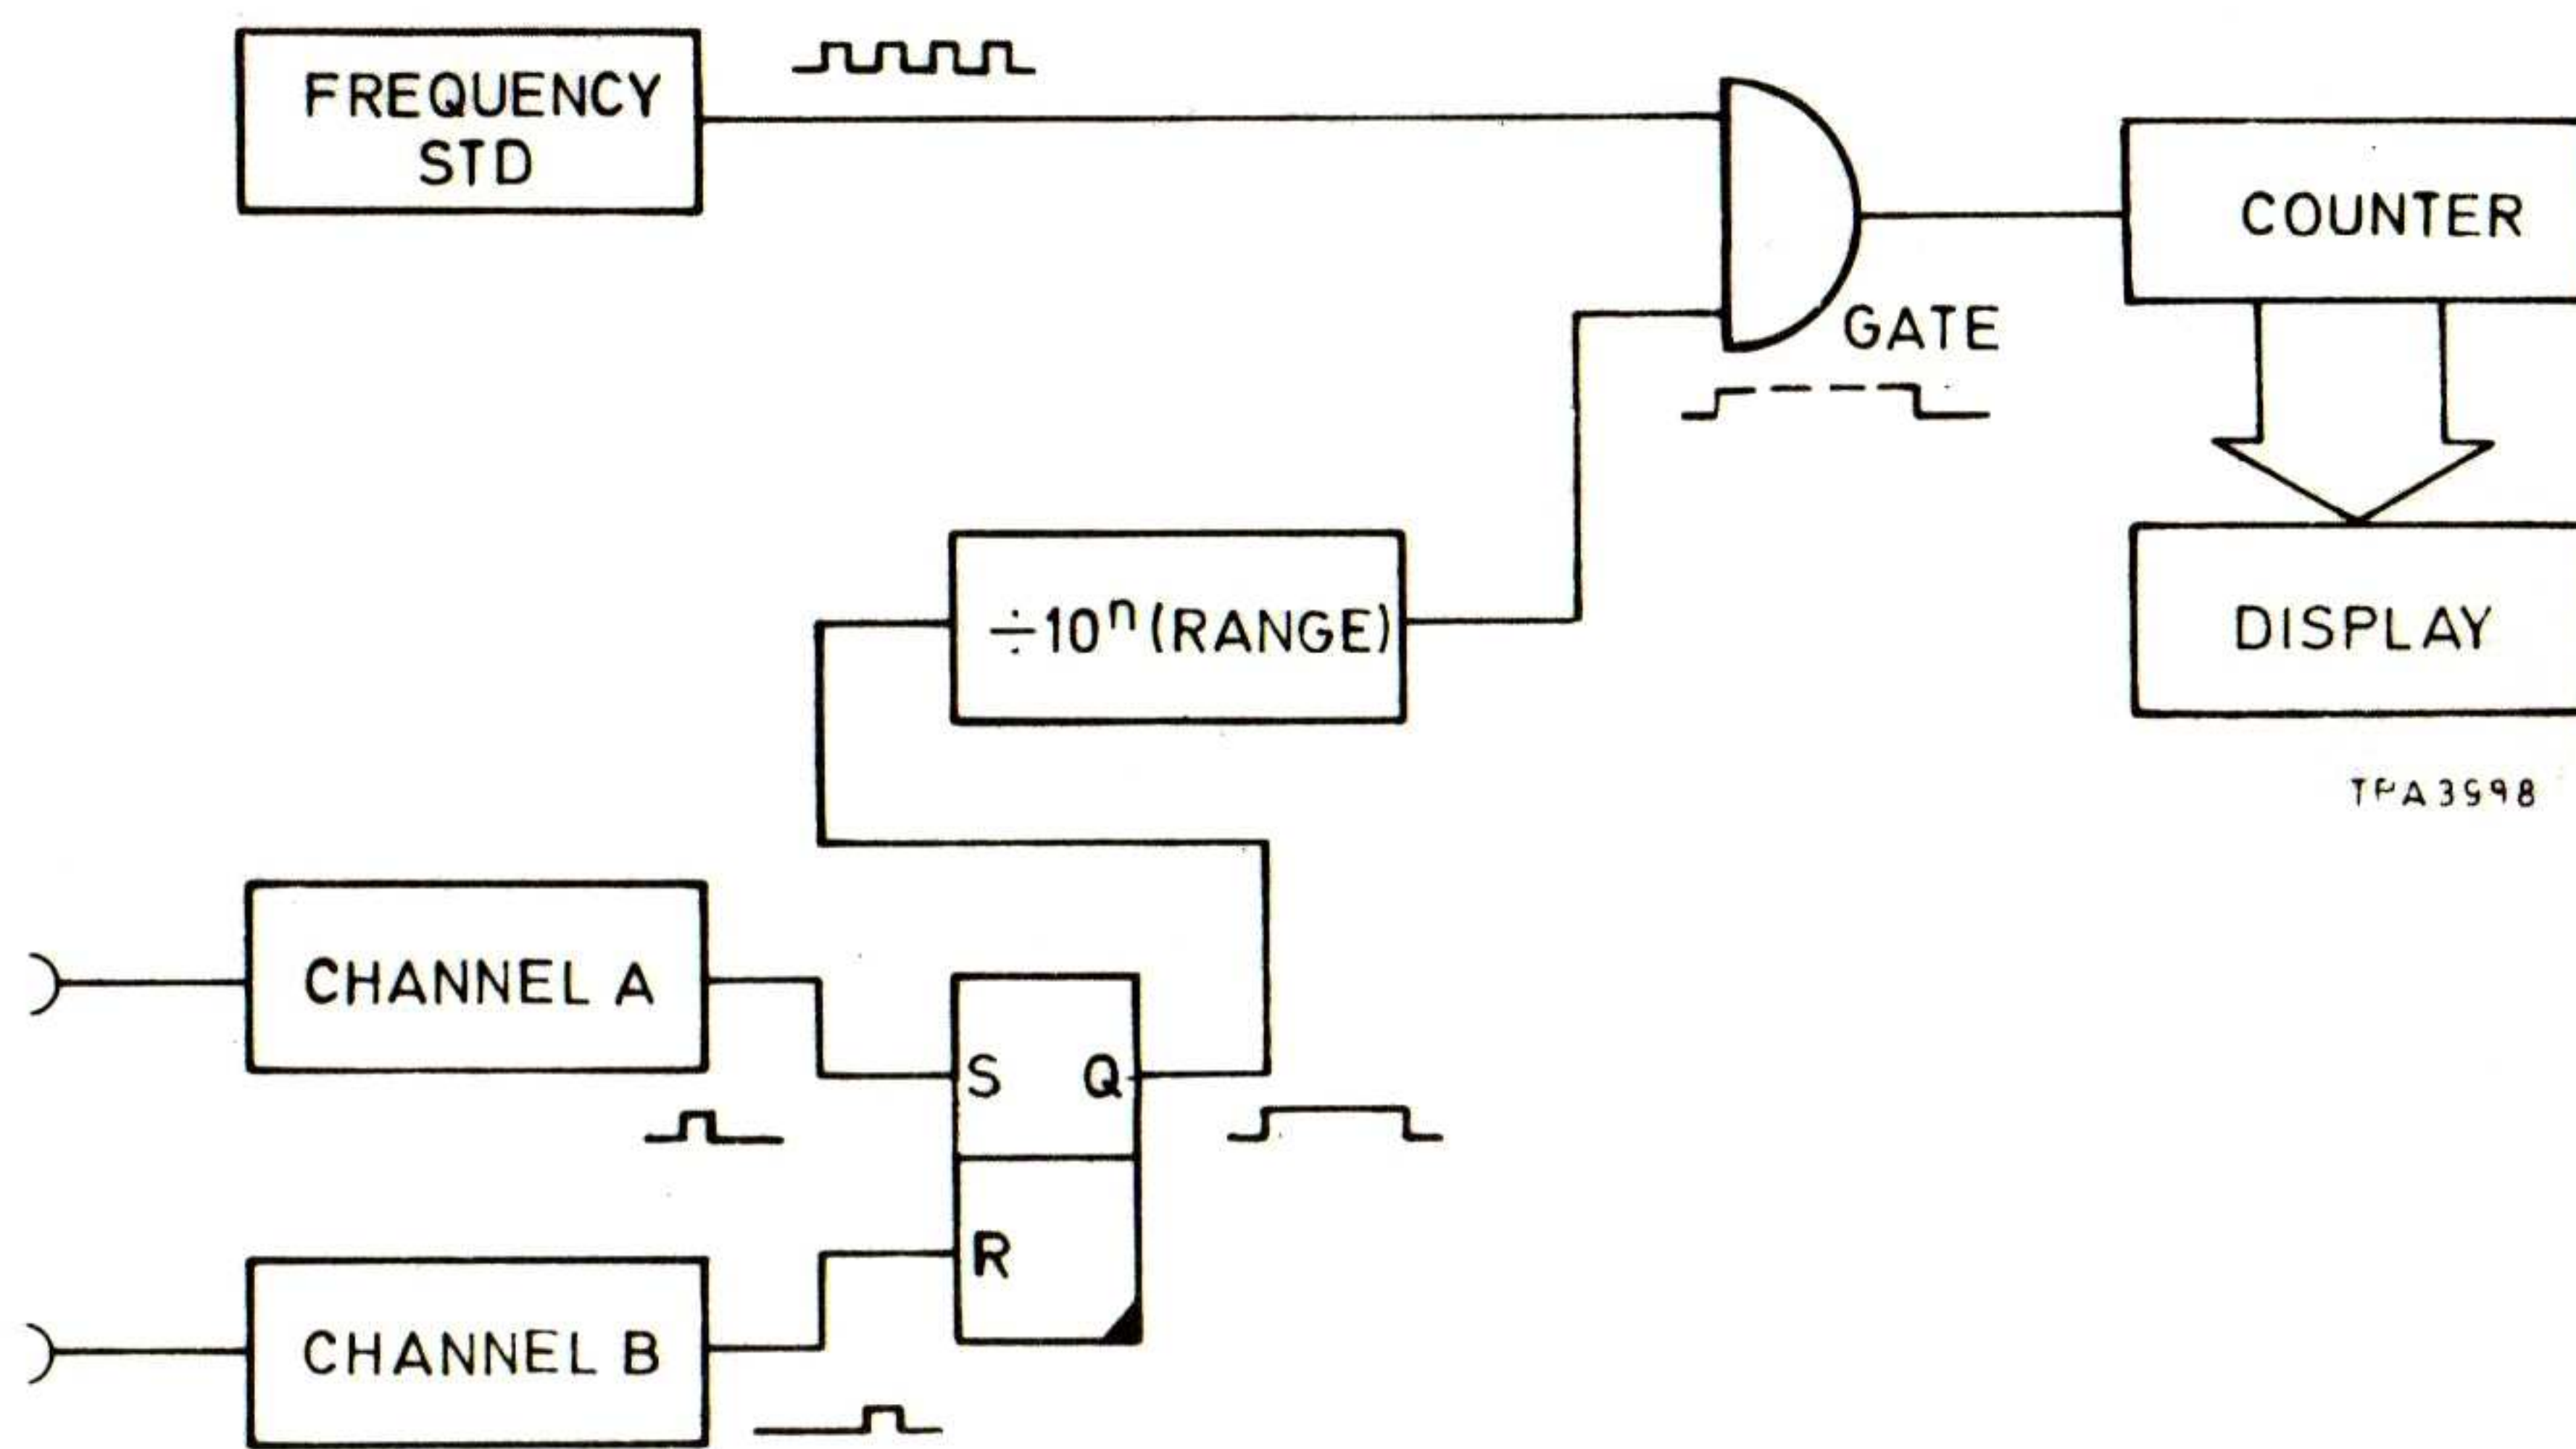

Fig. 5 T-INT A-B mode
6. The T-INT A-B mode, see Fig. 5, is similar to the period mode except that the gate control signal is obtained in a different way. An input to channel A produces a pulse which sets the bistable Q output high. An input to channel B produces a pulse which resets the bistable Q output low. In the single time interval mode, the output of the bistable is used directly to open and close the counter gate. In the time interval averaging mode, successive outputs from the bistable are divided to produce a control signal that allows a succession of time interval gating cycles to admit pulses to the counter.